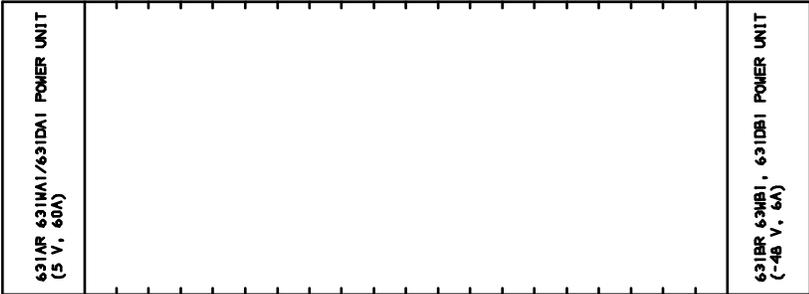

FIGURE 4-15. Power Unit Locations
12. Install the 631-type power units (removed from R1V3) into both the “A” and “B” carriers. There are three different pairs of power units available. They are the 631AR1 and 631BR1, the 631WA1 and 631WB1, and the 631DA1 and 631DB1. Do not interchange the units. The 631AR1, 631WA1, or 631DA1 are installed in the left side, while the 631BR1, 631WB1, or 631DB1 are installed in the right side (see Figure 4-15).